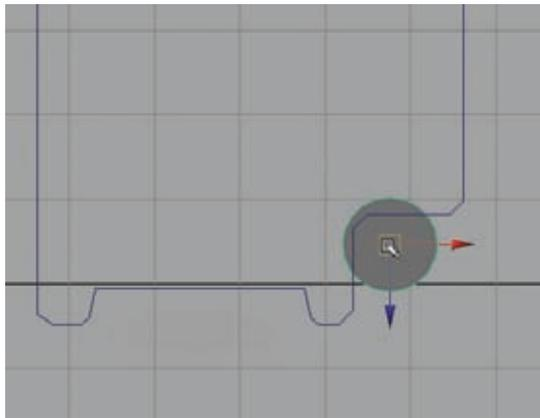

Figure 5.13
11. Go to the Top view. Create a cylinder and using Maya's interactive creation, draw it out to fit within the corner alcove of the column, as in Figure 5.13.